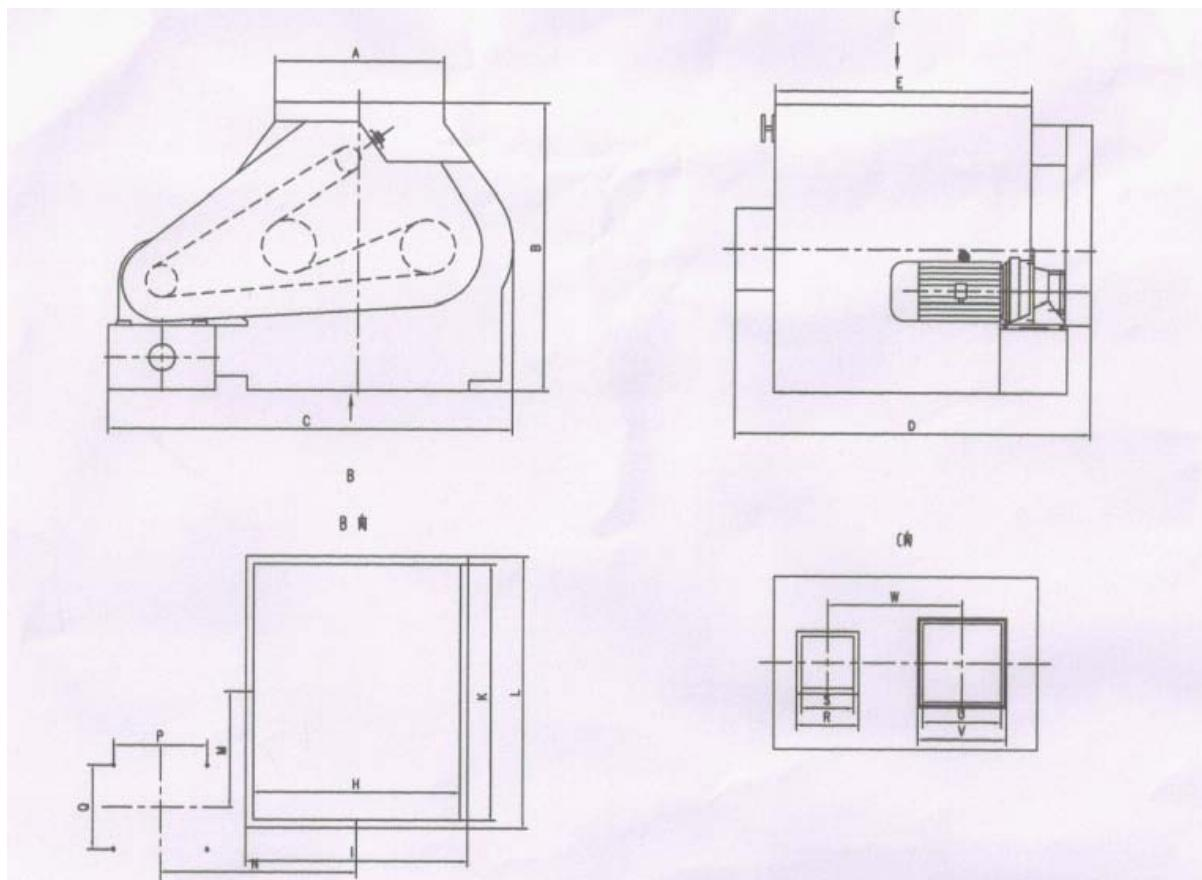

Fig. 3
6.1.1 Scaled drawing of machine (see Fig. 3(2-2), Table 2)